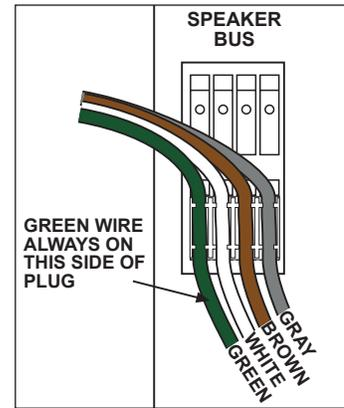

Figure 24. Speaker Bus polarity.
1. Using the a green/white/brown/gray bus cable assembly, plug a connector of the bus into a Speaker Bus header on each 942 module in the Front Amplifier group. The connectors are polarized, so they should only connect in one direction, but always make sure to prevent the possibility of forcably plugging the system bus to the header backwards (See Figure 24).